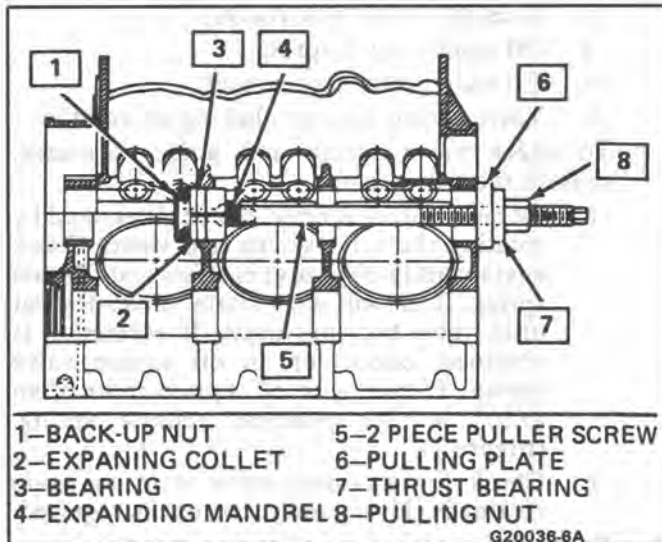

Figure 40 Removing/Installing Camshaft Bearings (Typical)
- Assemble bearing puller (Figure 40). Make sure the puller nut engages a sufficient number of threads.
- Place bearing onto the tool and index the oil hole(s) of the bearing with the oil passage(s) in the cylinder block. Pull bearing into place (Figure 40).